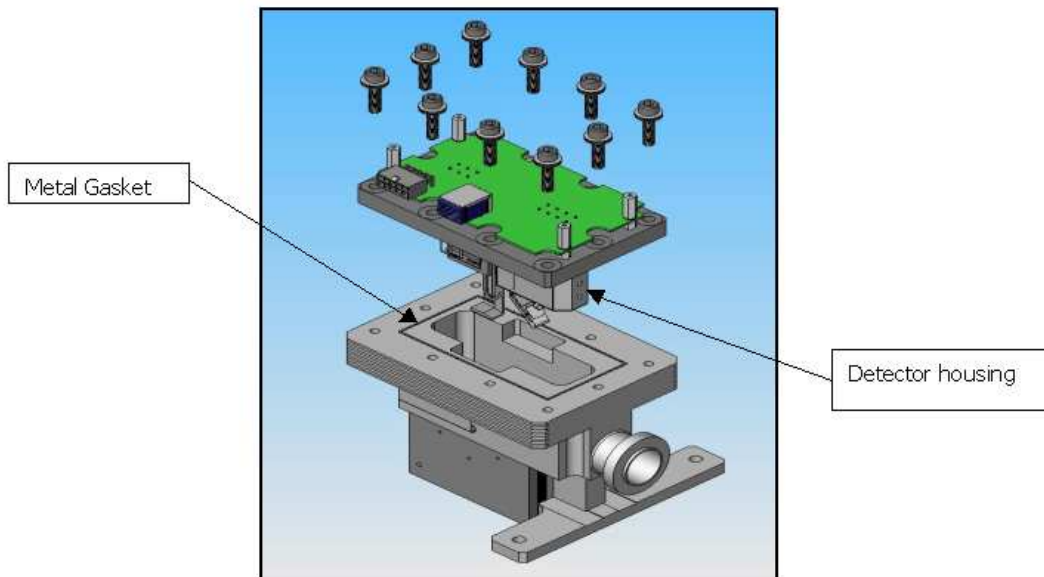

Figure 9: Spectrometer Alignment
20. Guide the spectrometer header into pocket with the detector housing closest to the inlet (Figure 9: Spectrometer Alignment).